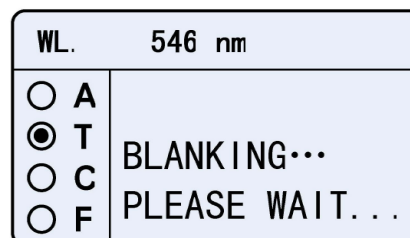

Fig. 4-5
- 3) Pull the Reference in the light path to calibrate 100%T (Fig. 4-5).